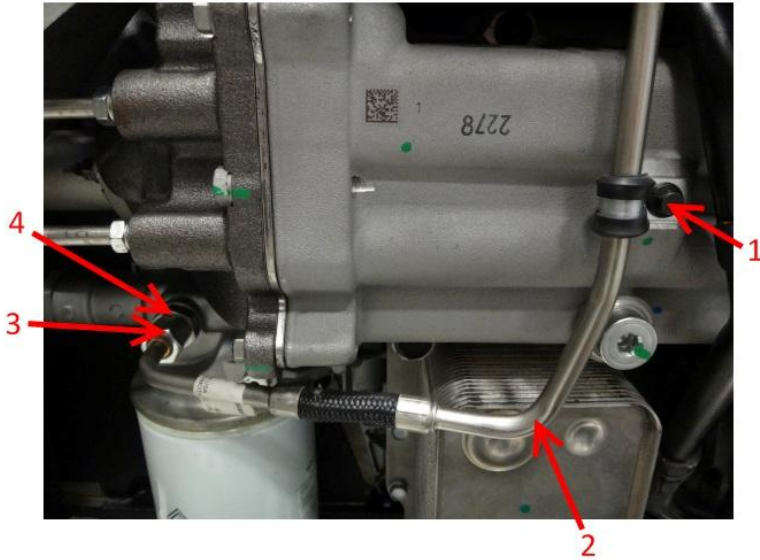

Figure 18: Oil Supply Tube at Oil Cooler Housing
13. Install new o-ring onto fitting (**Figure 18**, Item 4).
14. Connect turbocharger oil supply tube nut (**Figure 18**, Item 3) to fitting and o-ring (**Figure 18**, Item 4) (with screen) on the oil cooler housing.
15. Torque turbocharger oil supply tube nut (**Figure 18**, Item 3) to 18 lb-ft.
16. Install M6 X 12 bolt securing turbocharger oil supply tube assembly retainer to EGR cooler. Torque M6 X 12 bolt (**Figure 18**, Item 1) to 110 in-lbs.